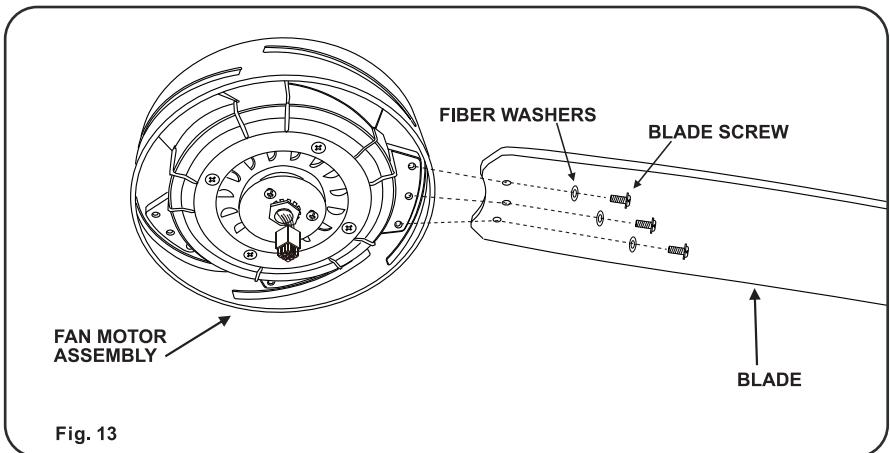

Fig. 13
Step 1. Insert the blade through the slot on the fan motor assembly. (Fig.13)
Step 2. Attach the fan blade to the fan motor assembly using the three blade screws and three fiber washers securely. (Fig.13)
Step 3. Repeat this step with the other four blades. (Figure 13)